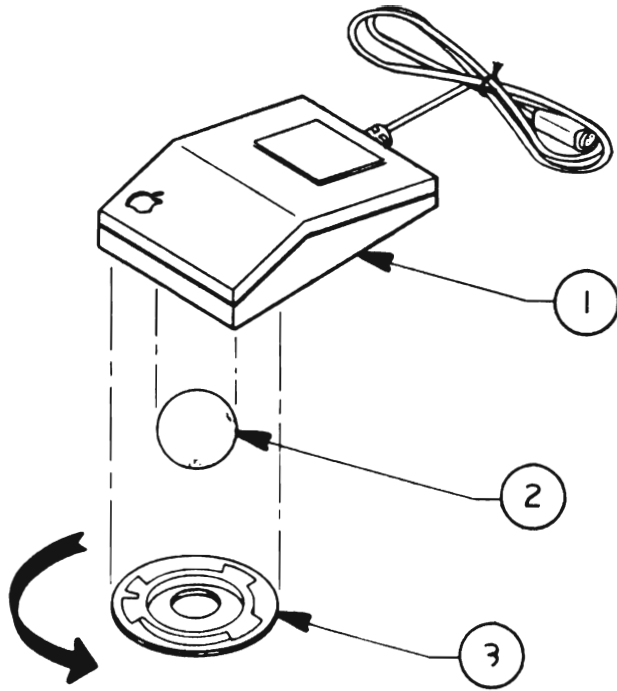

FIGURE 4
- IPL.9 Mouse (Figure 4)
□ MOUSE (Figure 4)